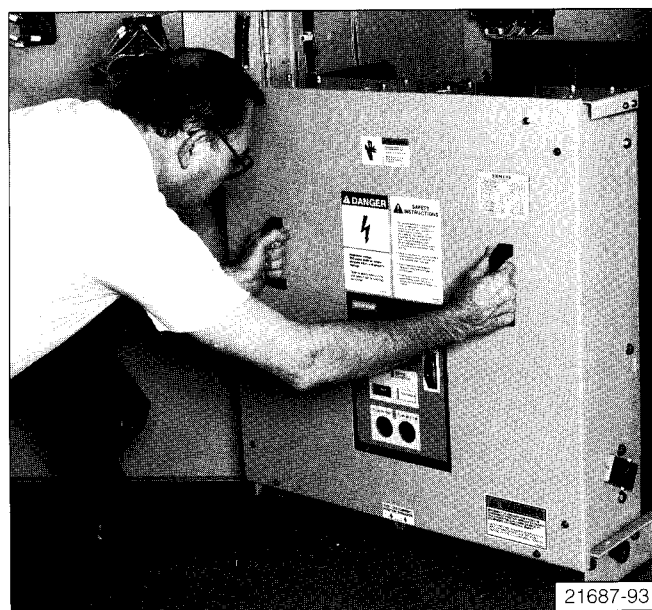

Figure 4: Removal of Circuit Breaker.
4. The circuit breaker is now free to be rolled out on the floor using the handles as shown in **Figure 4**. The wheels of the circuit breaker are virtually at floor level (unless the switchgear is installed on a raised pad), and one person can easily handle the unit.